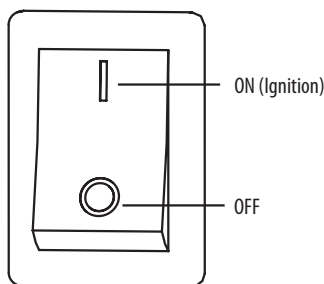

Figure 15
5. If equipped with an emergency stop control switch, make sure that the emergency stop control is set to the **ON** position, represented by the solid line while attempting to start the engine. See Figure 15.
To stop the running engine using the emergency stop control, move the switch to the **OFF** position, represented by the circle. See Figure 15.